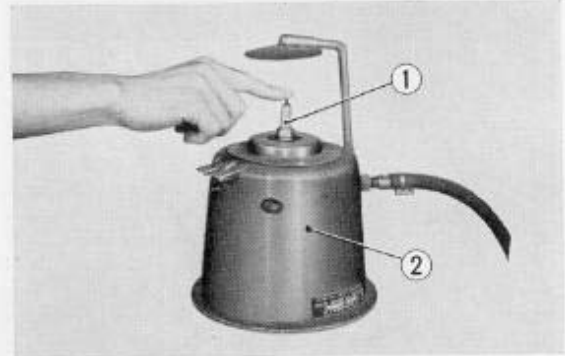

Fig. 5.9 Spark plug cleaner
- a. The use of the spark plug cleaner is the recommended method of cleaning the plugs, however, a satisfactory cleaning can be performed by using a needle or a stiff wire to remove the deposits and then wash in gasoline followed by drying with compressed air. (Fig. 5.9)